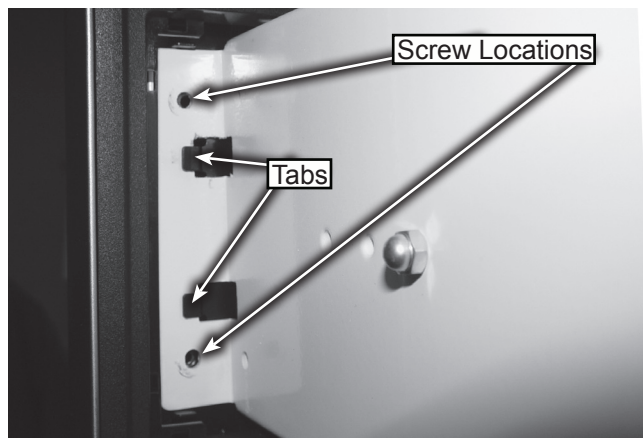

Figure 2
4. Remove two screws on either side of the drawer support angles securing the drawer, see figure 2.
5. Once all screws are removed, release the side support angles by pulling the angles out slightly to clear the tabs. Lift and remove the drawer assembly see figure 2.